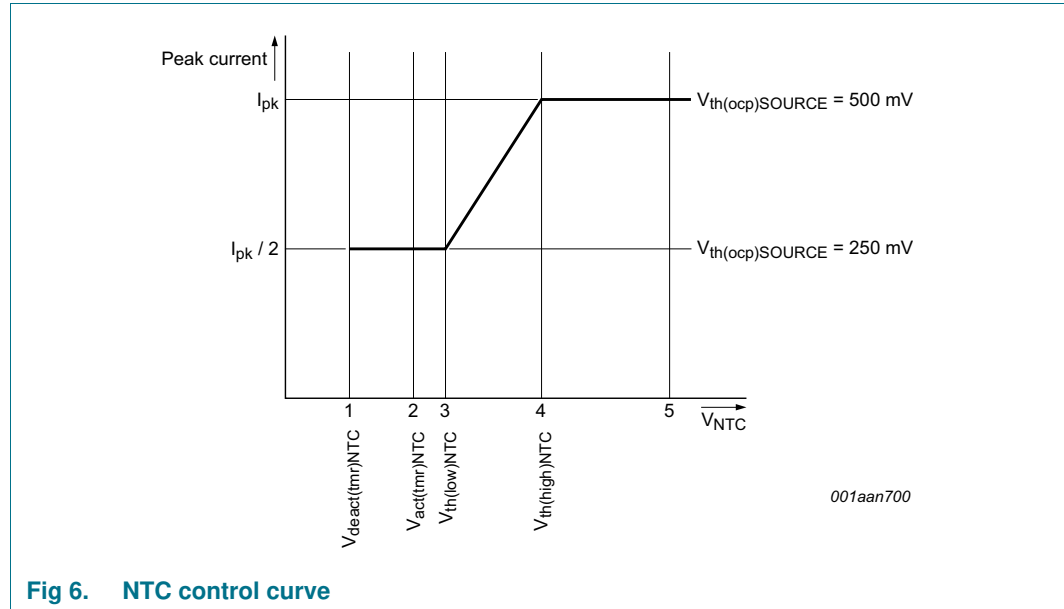

Fig 6. NTC control curve
The NTC pin can be used as a control method for LED thermal protection. Alternatively, the pin can be used as an input to disable/enable light output using a digital signal (PWM regulation). The pin has an internal current source that generates the current of $I_{\text{offset}(\text{NTC})}$. An NTC resistor to monitor the LED temperature can be connected directly to the NTC pin. Depending on the resistance value and the corresponding voltage on the NTC pin, the converter reacts as shown in Figure 6.
When the voltage on the NTC pin exceeds $V_{th(high)NTC}$ (see Figure 6 (4)), the converter delivers nominal output current. When the voltage is lower than this level, the peak current is gradually reduced until $V_{th(low)NTC}$ is reached (see Figure 6 (3)). The peak current is now half the peak current of nominal operation. When $V_{act(tmr)NTC}$ is passed (see Figure 6 (2)), a timer starts to run to distinguish between the following situations:
- If the low-level $V_{deact(tmr)NTC}$ is not reached within time $t_{to(deact)NTC}$ (see Figure 6 (1)), LED overtemperature is detected. The IC stops switching and attempts to restart from the HV pin voltage. The converter restarts from an NTC protection shutdown when the voltage on the NTC pin exceeds $V_{th(high)NTC}$ (see Figure 6 (4)). It is assumed that the reduction in peak current does not result in a lower NTC temperature and LED OTP is activated.
- If the low-level $V_{deact(tmr)NTC}$ is reached within the time $t_{to(deact)NTC}$ (see Figure 6 (1)) it is assumed that the pin is pulled down externally. The restart function is not triggered. Instead, the output current is reduced to zero. PWM regulation and consequently LED output current regulation can be implemented this way. The output current rises again when the voltage exceeds $V_{th(low)NTC}$.
The NTC pin can be used to make a soft start function. During switch-on, the level on the NTC pin is low. By connecting a capacitor (in parallel with the NTC resistor), a time constant can be defined. The time constant causes the level on the NTC pin to increase slowly. When passing level $V_{th(low)NTC}$ (see Figure 6 (3)), the converter starts with half of the maximum current. The output current slowly increases to maximum when $V_{th(high)NTC}$ (see Figure 6 (4)) is reached.